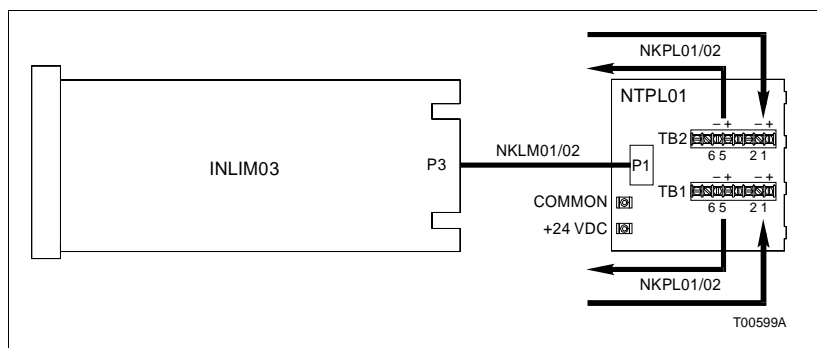

Figure 2-2. TPL Cable Connection to the INLIM03
After mounting the termination unit to the FTP, install the termination cables. Table 2-1 lists the termination cables, their application, connector assignments and length restrictions. Figure 2-2 shows a diagram of cable connections to the LIM and TPL. To install the termination unit cable:
2. Insert the socket connector end of the cable into P1 of the TPL. See Figure 2-2 for the location of P1 on the TPL circuit board.